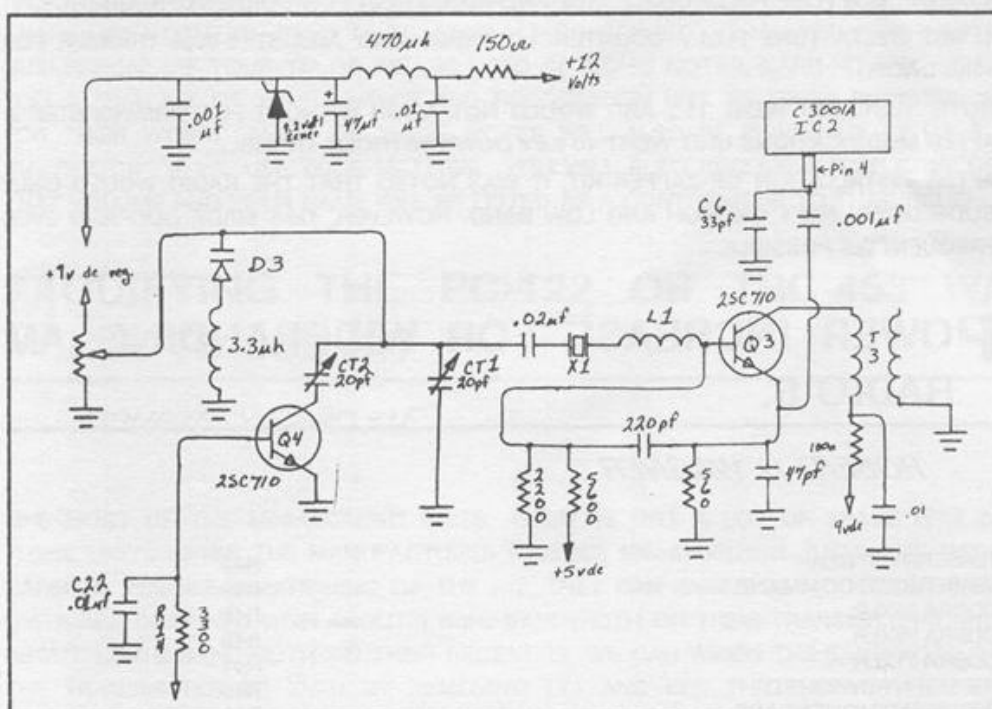

FIGURE 1. 02A CLARIFIER, REFER TO Pg 9
4. PUNCH A 13/32" HOLE AS INDICATED IN FIGURE 1. MAKE SURE TO LEAVE THE MOUNTING EAR ATTACHED AT POINTS A AND B, BY 1/16" SPACE.